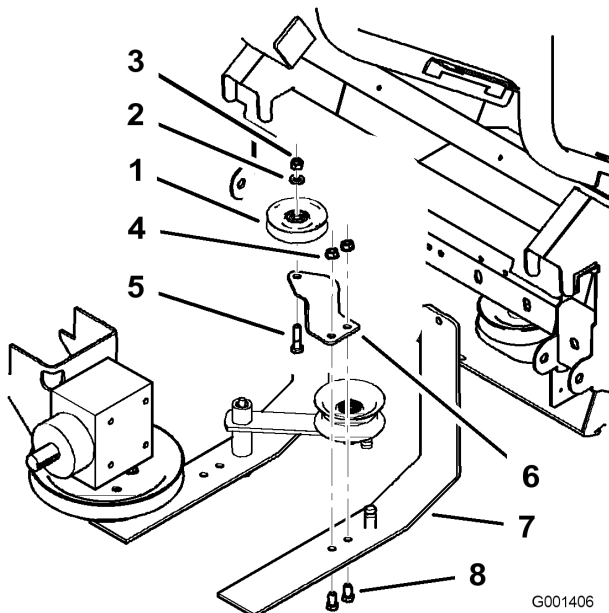

Figure 16
2. Install the fixed idler assembly to the left rear bottom frame with 2 bolts (3/8 x 3/4 inch) and 2 flange nuts (3/8 inch) (Figure 16).